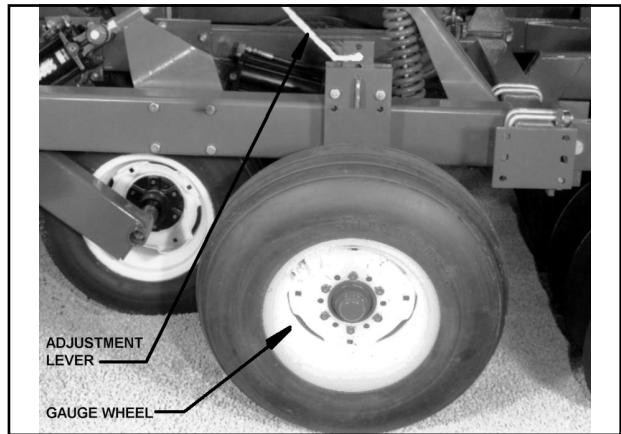

Figure 3-27 - Gauge Wheel on RH Wing
- 3-18.6** Using wheel height adjustment lever, remove L-pin and lower gauge wheel to ground to support wing frame. Replace L-pin and clip pin. Return adjustment lever to storage position (**See Figure 3-27**).